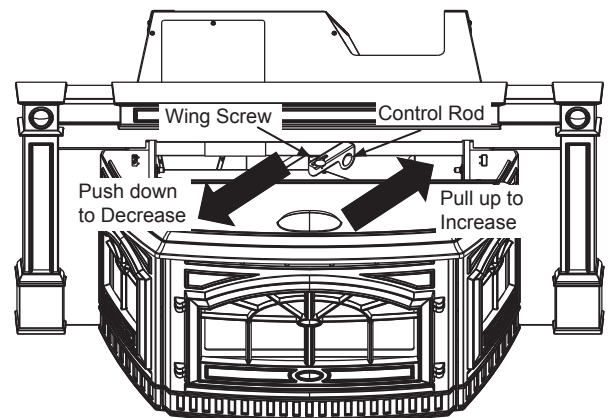

Figure 27.2
1. Loosen the wing screw. **Figure 27.2.**